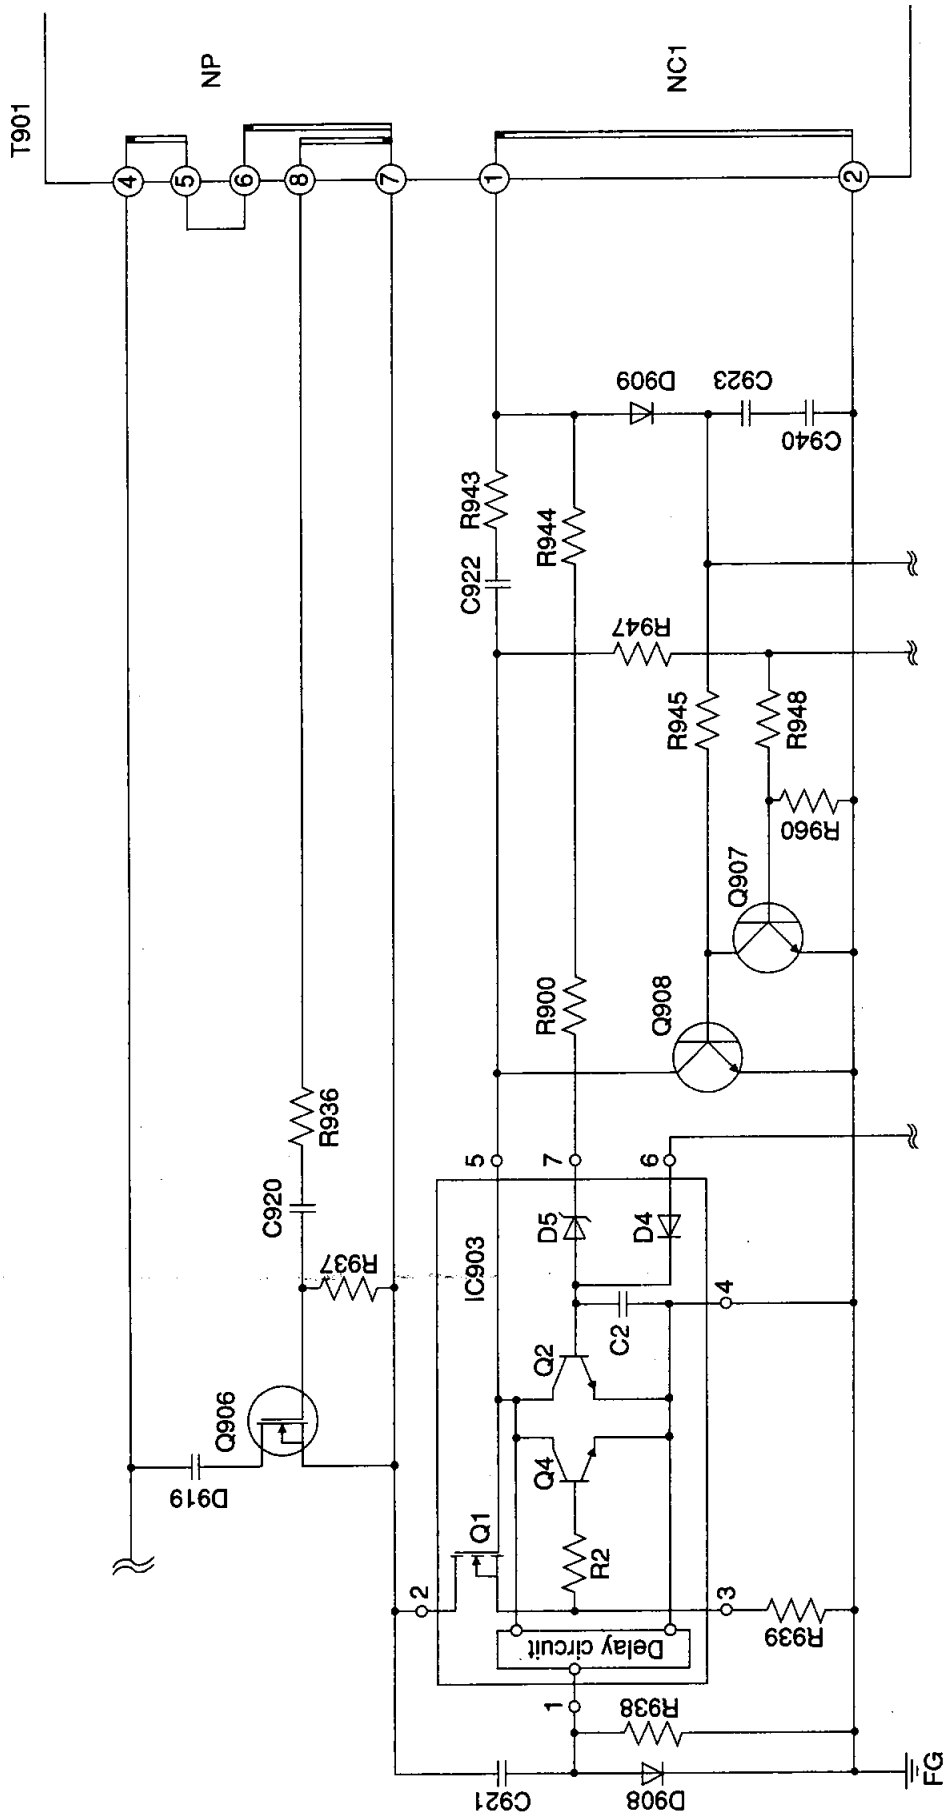

Figure 6. Main power circuit
- (1) The main power uses a pseudo-resonance operation fly-back converter type switching control ICMA5941.
- (2) In Fig. 6, when the sub-power starts and Q910 turns ON, Q908 turns OFF and IC903 starts operation. In other words, when potential is generated across the No. 5 and No. 3 pins and $V_{TH} = 3V$ (TPY) is achieved, the drain current flows to the main switching terminal Q1, and the input voltage VDC is applied on the Np coil. With this, the voltage calculated with the following expression is generated at the NC1 coil, and the voltage is supplied to the gate terminal (pin No. 5) via R943 and C922.
- (3) Immediately after the power is turned ON, the constant voltage and dropping control are not sufficiently activated, so an excessive current could flow to the Q1 drain. As the Q1 drain current overcurrent protection, the R939 is connected across the source terminal (pin No. 3) and ground terminal (pin No. 4). When the voltage drops, Q4 turns On, the gate voltage VGS drops below V_{TH} , and Q1 turns OFF.
- (4) From the NC1 coil, voltage is supplied to the gate terminal and C2 is charged via D5. When the C2 potential reaches approx. 1V, Q2 turns ON and the gate voltage VGS drops below V_{TH} . Thus, Q1 turns OFF. In other words, the Q1 max. ON time is the value determined by the NC1 coil voltage V_{CNC1} , R900, R944, D5 and C2.
- (5) When Q1 turns OFF, the energy accumulated in the transformer T901 is output from the NS coil to the secondary side via D961. At the same time, the voltage generated in the reverse direction passes through D5, R900 and R944 to discharge C2, and charges the NC1 coil with a minus potential. When the discharge of the transformer energy ends, D961 turns OFF, but a voltage is generated in the NC1 due to the fly-back of the slight residual energy. This turns Q1 ON again, and continues the switching operation.
- (6) Constant voltage control